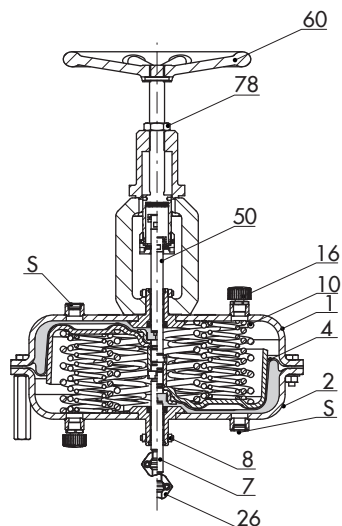

Fig. 11: Type 3271 with 750v2 cm² and additional handwheel
- **Type 3271 or Type 3277 · Additional handwheel** for actuators with actuator areas fro, 175v2 to 750v2 cm² (Fig. 6 and Fig. 11)